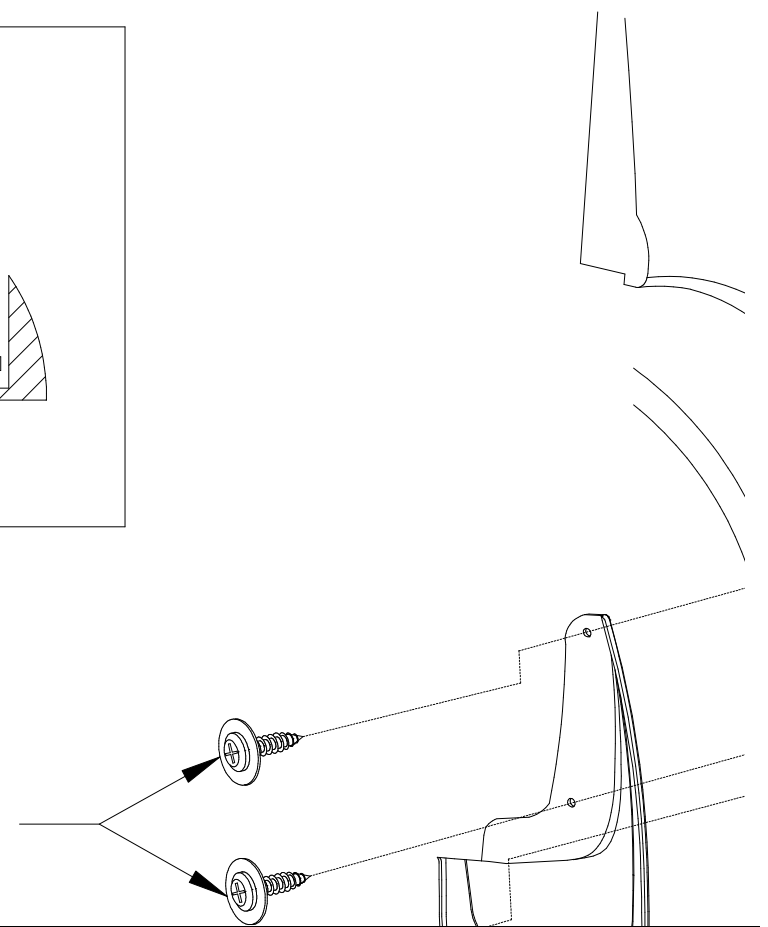

Figure 1
1. Remove existing fasteners from location A, B, and C. (Figure 1)